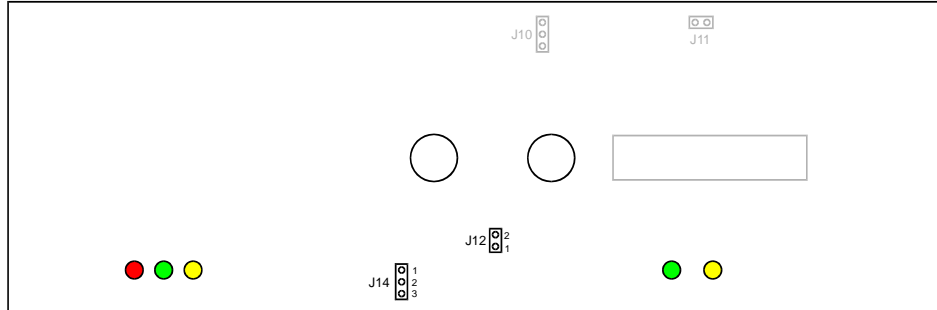

Figure 4-3 Fiber Optic Interface Jumper Locations.
The jumper locations for the fiber optic interface are shown in Figure 4-3. The view of the module is from the component side. The fiber optic receiver (RX) and transmitter (TX) are shown for reference. The jumper settings are listed in Table 4-1.